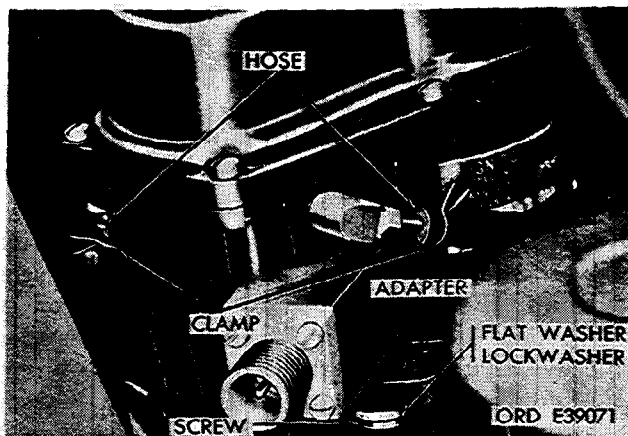
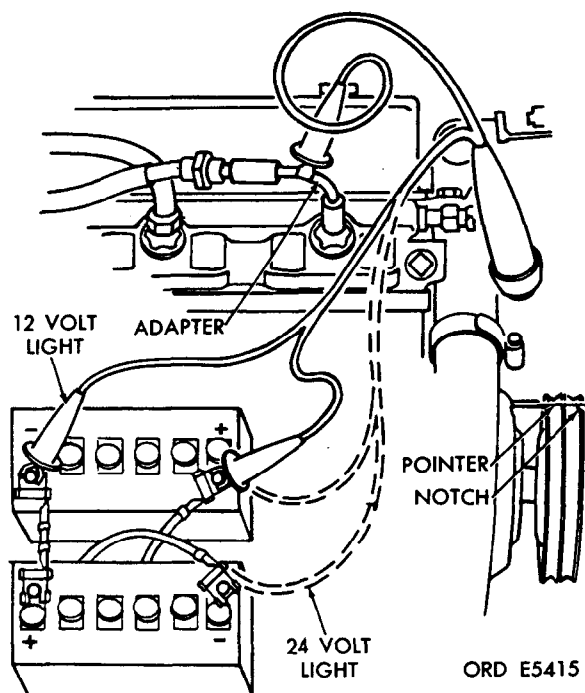

Figure 2-147. Pull vent hoses and remove mounting screw.
Figure 2-160. Schematic showing hook-up for ignition timing using timing light and adapter.
(3) Remove clamp and remove vent hoses. Remove distributor mounting screw, flat washer and lockwasher located at slotted hole in adapter (fig. 2-147).
(3) Tighten distributor to adapter mounting screw to a snug fit (fig. 2-147).
(4) Install cap and cover assembly. This procedure alone is not adequate for good engine performance. Perform precise timing procedure, below.
*e. Precise Timing.* Refer to figure 2-160 for an